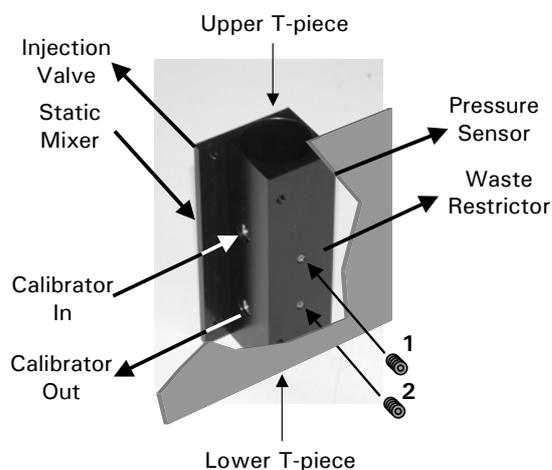

FIGURE 3-26. T-Piece Assembly
Remove the T-pieces from the T-Piece holder. Each T-piece is locked in the holder by one pin screw (items 1 and 2, FIGURE 3-26).